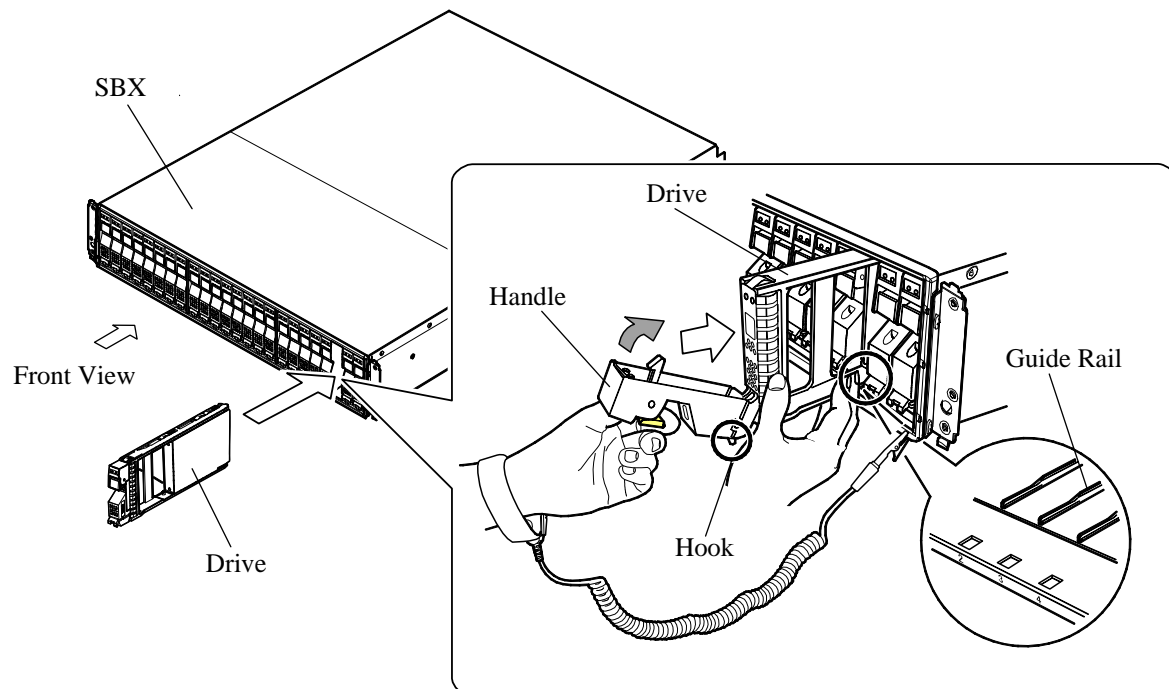

Fig. 3.40.1-13 Installation of Drive (for SBX)
- a. Make the handle of the DKUPS completely fall down and forward. (See Fig. 3.40.1-6.)